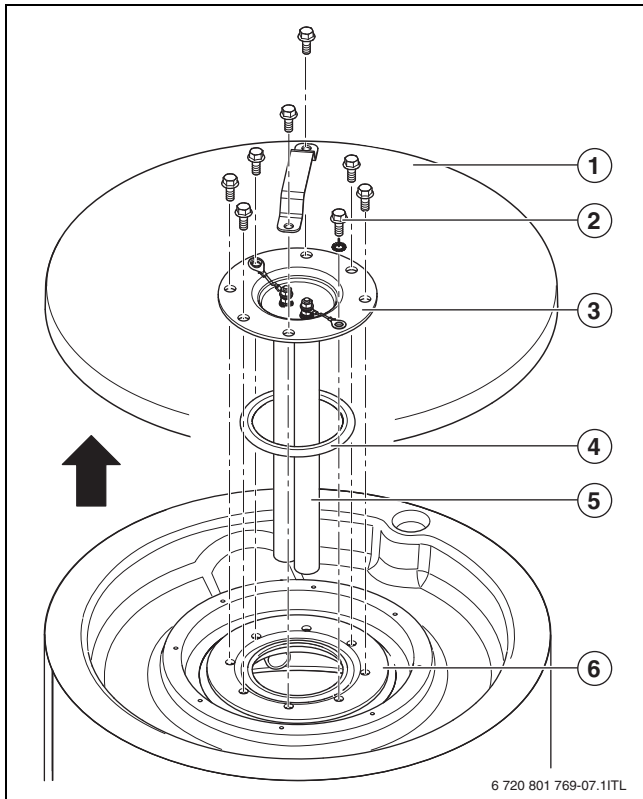
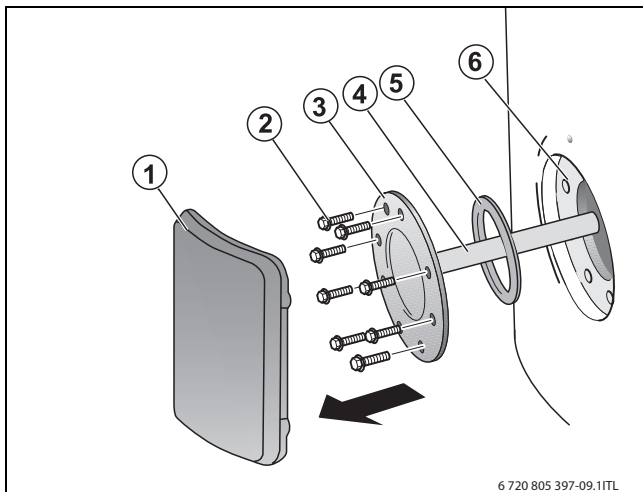

Fig. 17 Removing the cleanout cover SU54/5
Fig. 18 Removing the cleanout cover SU80/5, SU100/5
- ▶ Remove the PS top cover (SU54/5) (→ Fig. 17, page 14, [1]) or cleanout cover shroud (SU80/5, SU100/5) (→ Fig. 18, page 14, [1]) from the tank.
- Remove the cleanout cover (→ Fig. 17, page 14), if not yet removed.